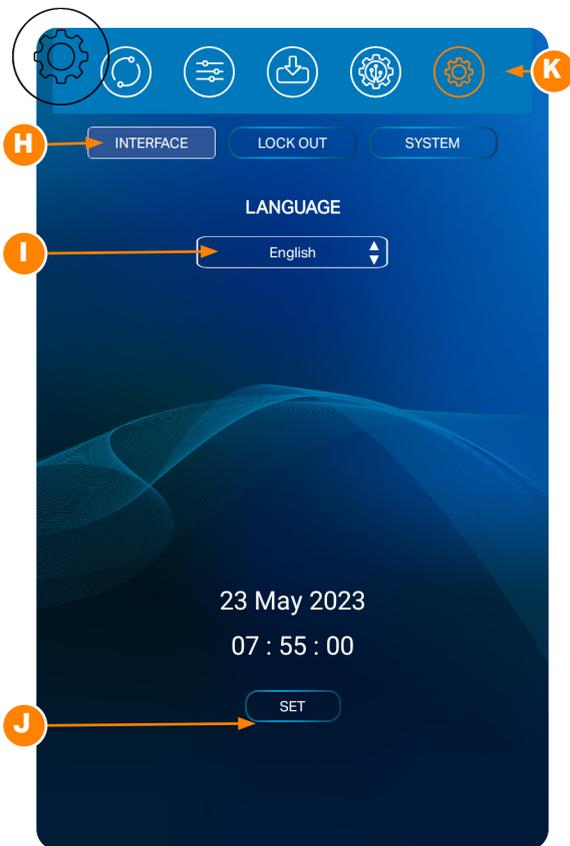

Figure 28.1. Use the Settings Screen to make changes to the Pico's general system settings, such as language, defaults, Wi-Fi, and locks.
Use the Settings Screen to make changes to the Pico's general system settings, such as language, defaults, Wi-Fi, and locks. To make changes to the welder's general settings, press the Settings Screen Button (K) in the Navigation Bar. The Settings Screen will appear (see Figure 28.1).